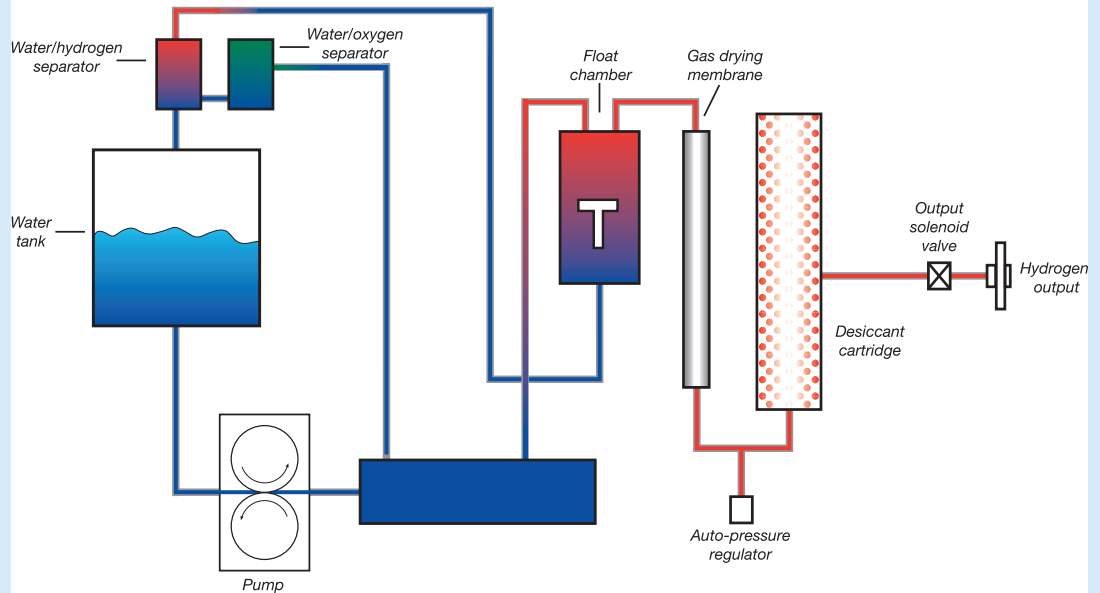

Figure 1: Hydrogen Technology
- 1 Carrier gas lines – Depressurize and vent the Hydrogen line. Then cut the fuel gas line (Hydrogen) and add a tee. Extend a line into the Carrier Gas in-port behind the GC from the other side of the tee. (See Figure 1).